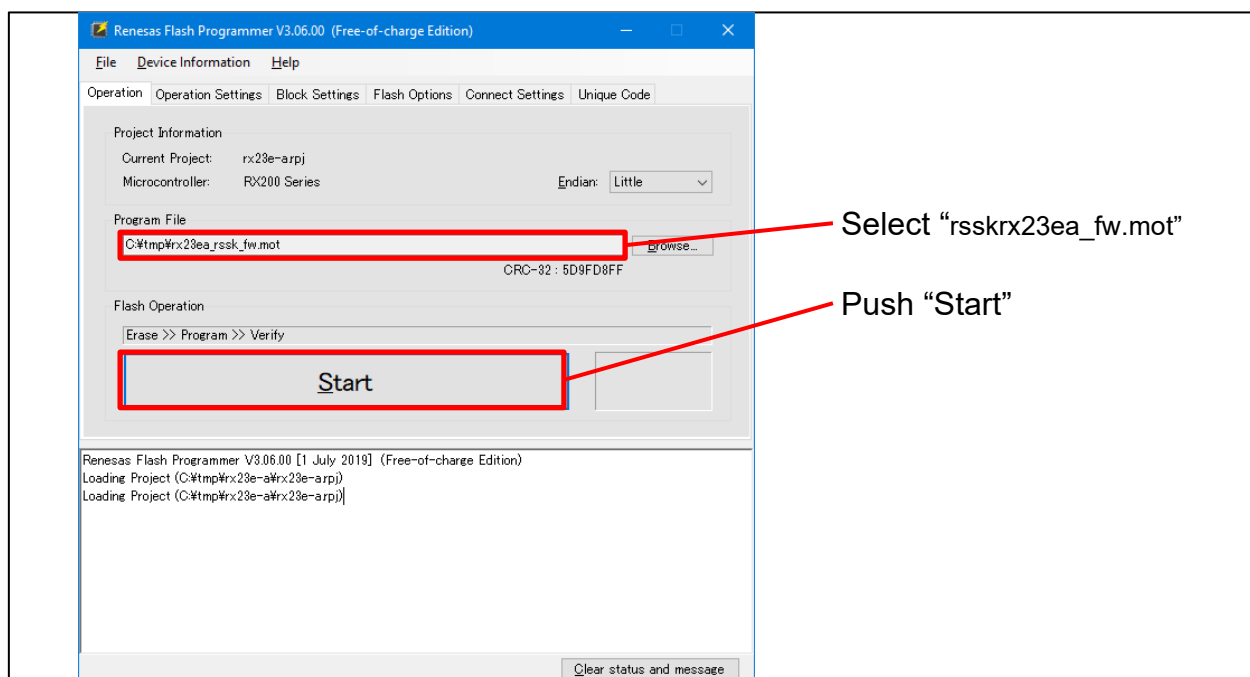

Figure 4-3 RFP Writing Operation
4. Select “rsskrx23ea\_fw.mot” file, then click “Start” after reset RSSKRX23E-A board.in reference to Figure 4-3.